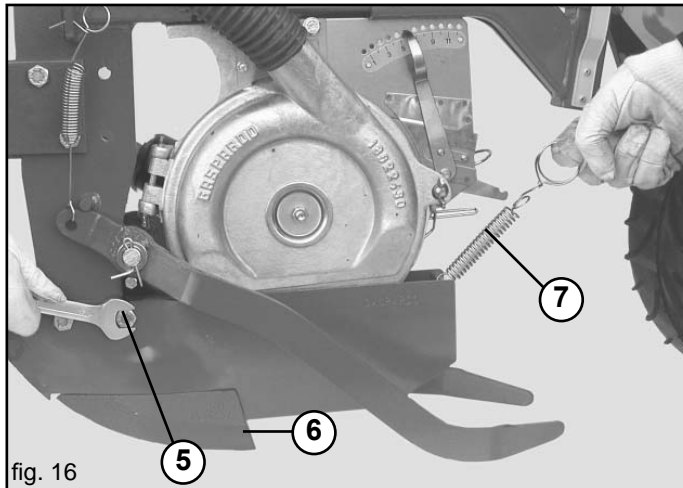

fig. 16
- 2) If fitted, remove the antibounce bolt (5, Fig.16);
- 3) Unhook the lister (6, Fig.16) by removing the spring (7);